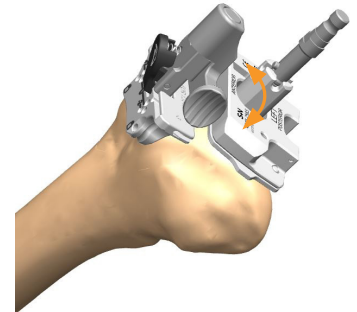

Figure 72
2. Slide the Intramedullary Rod of the Kinematic Alignment assembly and pivot the Distal Valgus Guide until both sides contact the distal femur (Figure 72). Contacting both sides of the femur ensures that the resection will match the implant thickness accounting for cartilage wear